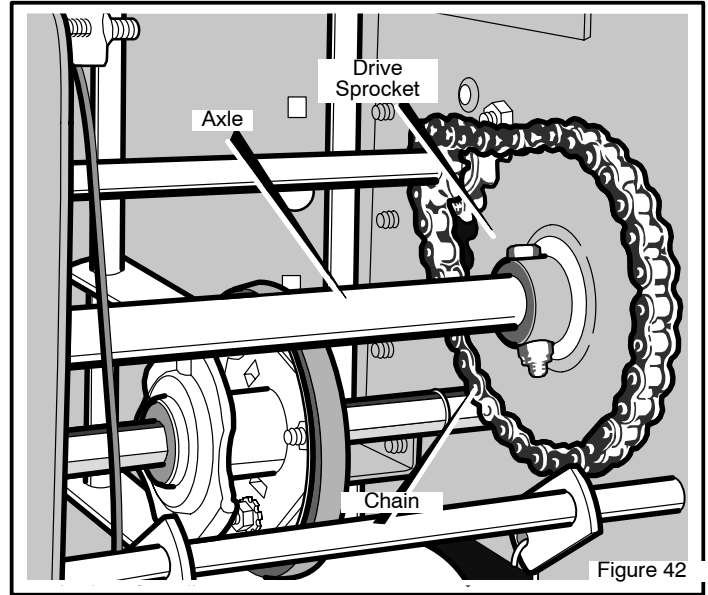

Figure 42
6. Remove the fasteners that secure the **drive sprocket** to the **axle** (see Figure 42).
15. Install the right wheel, **axle**, and **drive sprocket** with the fasteners removed earlier. Install the **chain** onto the **drive sprocket** (see Figure 42).